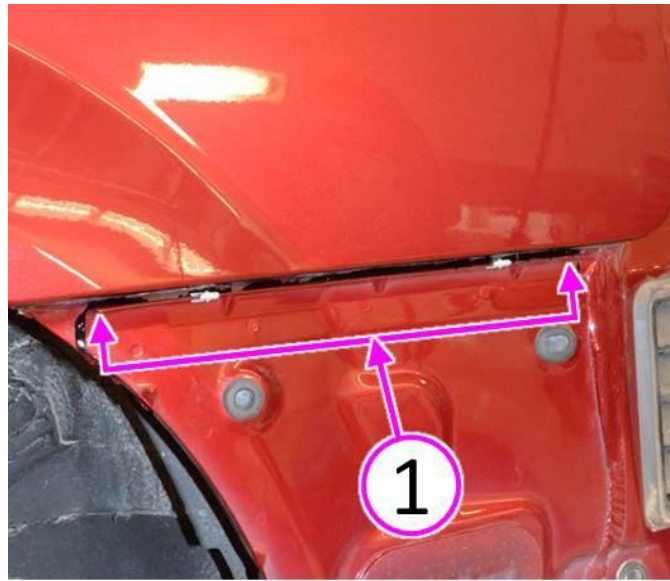

Fig. 4 Apply Sealer To Entire Length Of Slot
5. Use the extension tube to apply Kent® Spray Leak Check sealer into the entire length of the left side fascia support flange (Fig. 3) and (Fig. 4).